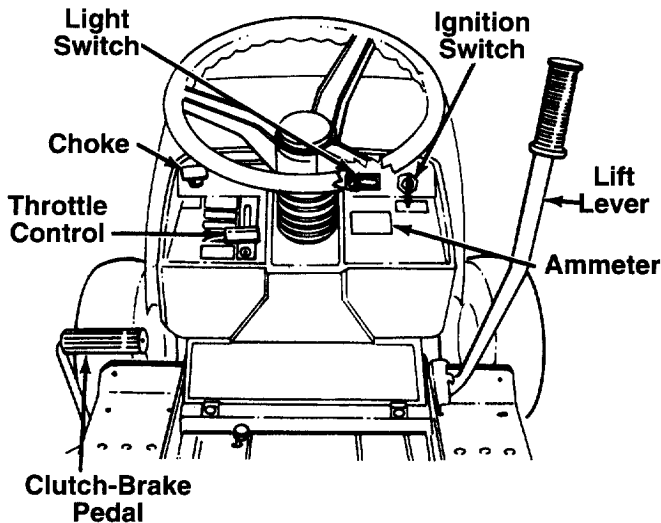

FIGURE 7.
The ignition switch is located on the dashboard. The engine is started by turning the key to the START position. When the engine is running, leave the key in the ON position. To stop the engine, turn the key to the OFF position. See figure 7.
The throttle control is located on the dashboard and is used to regulate the engine speed. To get maximum efficiency from cutting, the throttle should be in the FAST position when operating the mower. See figure 7.
The choke control is located on the dashboard and is operated manually. Details for the choke operation are covered in the separate engine manual packed with your unit. See figure 7.
The head lamps are operated by pushing the light switch located on the dashboard. The head lamps will only operate when the engine is running. See figure 7.
The ammeter registers the rate of battery charge or discharge. The ammeter will register on the discharging side with starting the engine. It should register on the opposite side (charging) when the engine is running in the fast position until the battery is completely charged. With a fully charged battery or with the engine idling, the ammeter will not show a charge. See figure 7.
The clutch-brake pedal is located on the left side of the tractor. See figure 7. Depressing the pedal returns the drive unit to neutral (N) and applies the brake.